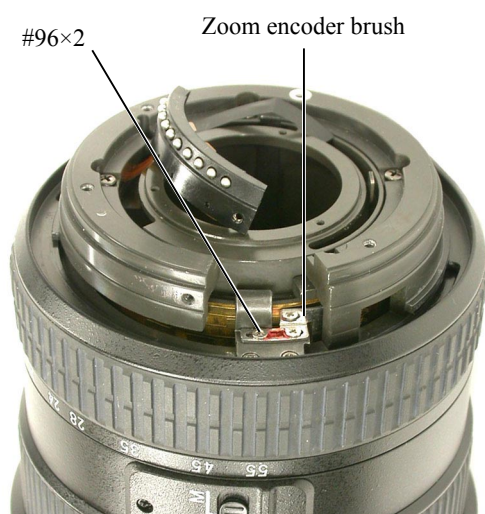

Fig.1
- Set the zoom ring to 17 mm, and take out 2 screws (#96). (ref. Fig.1)